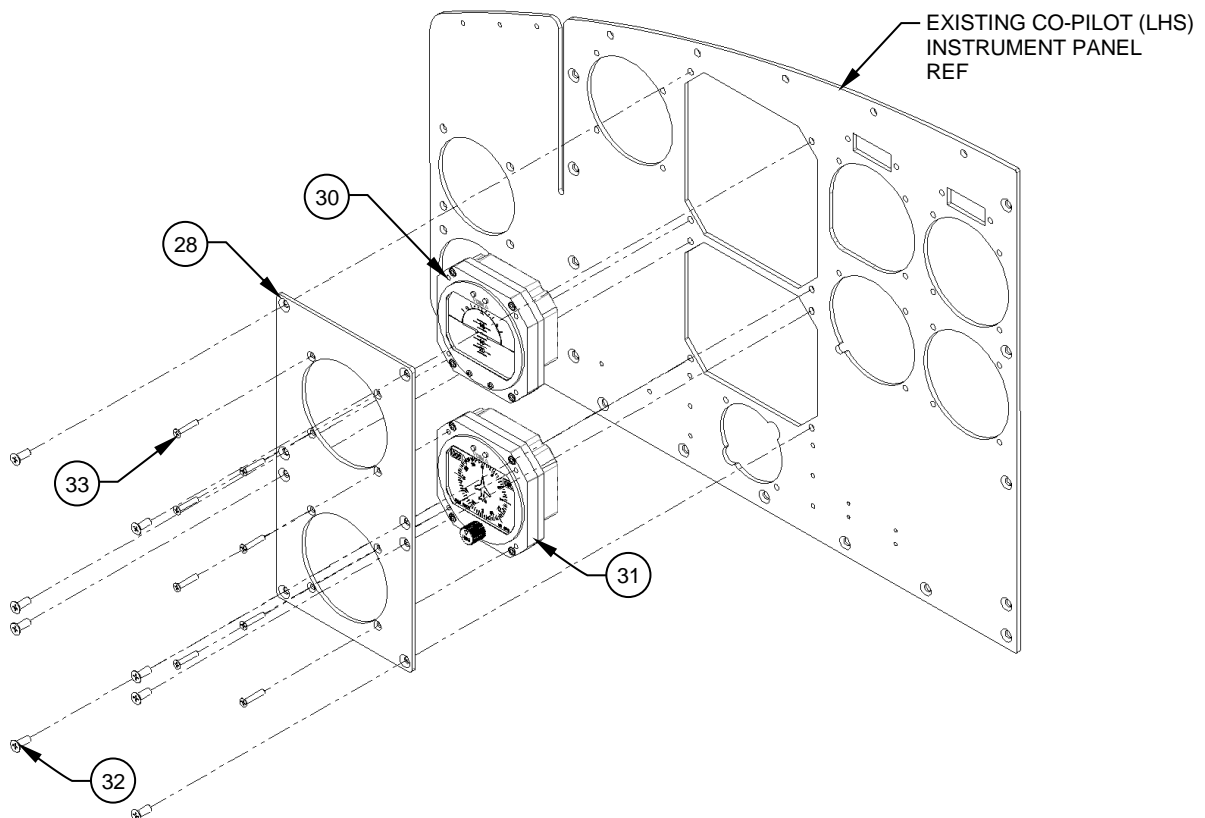

Figure 4
3. Remove all fasteners (Item 32) common to the Adaptor, Detail (Item 28) and remove the Adaptor, Detail, the Attitude (Item 30) and Heading Indicators (Item 31) as a unit. If installed on an aircraft with a serial number of 30596 or earlier, remove Adaptor, Detail (Item 29) with the Attitude Indicator as a unit. Remove the Heading Indicator directly from the existing instrument panel. Reference Figure 4.